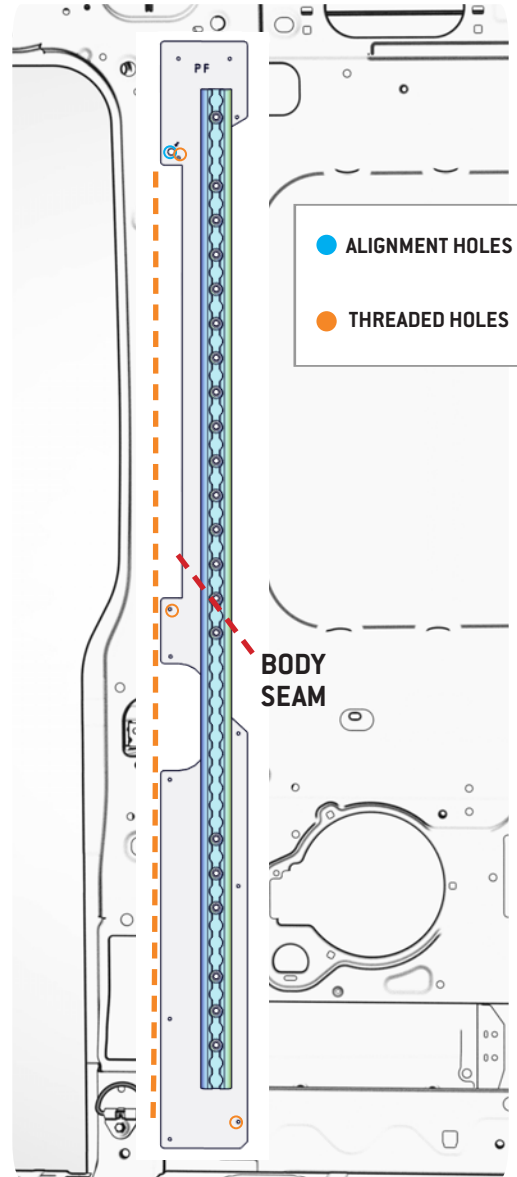

FIG 5
3.1 Align Passenger Side Front Bracket: Align the Passenger Side Front Bracket to the Alignment Point as shown in FIG 5. There should also be a Body Seam that you can use as a visual guide.